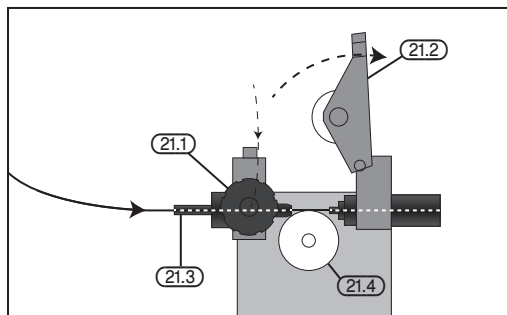

FIG. 1
7.4 INSTALLING THE FILLER WIRE (MIG WELDER) – FIGS. 1 - 5